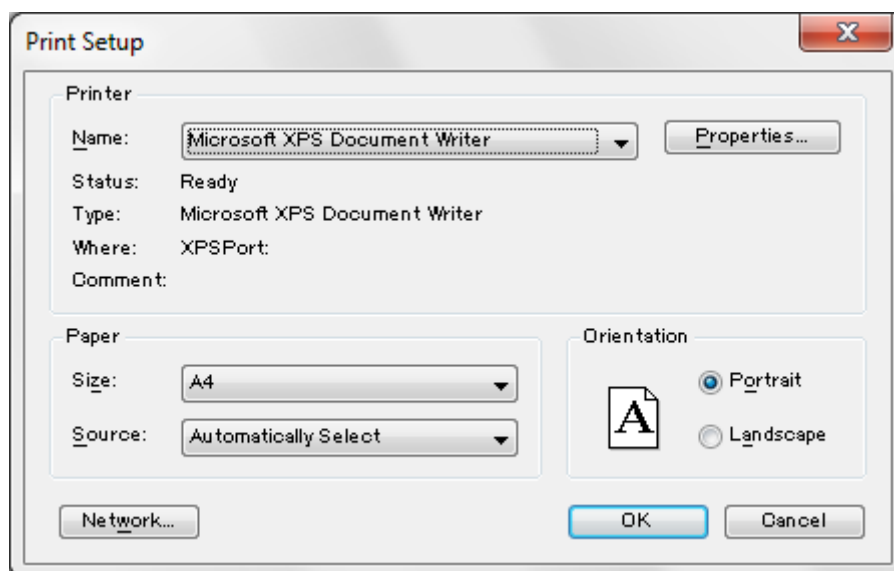

Figure 5.17 Example of [Print Setup] dialog box
- (1) Select [Print Setup...] from the [File] menu to display the dialog box in Figure 5.17. The content of this dialog box varies depending on the connected printer. Configure the printer settings if necessary.